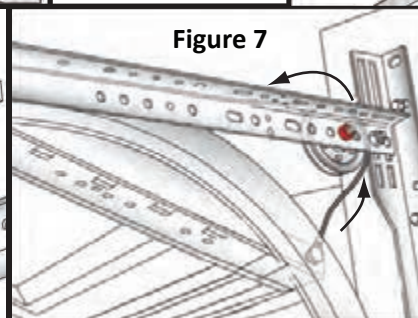

Figure 7
Step 4: Attach the Eye Bolt to the right side diagonal Hanger Angle using (2) 5/16" RED nuts (Fig 7). One Red nut goes to the inside and one to the outside to lock the Eye Bolt in place. If your door comes with (4) Extension Springs, you will need two Eye Bolts and (4) nuts per side (Fig 7-8, Two Spring).